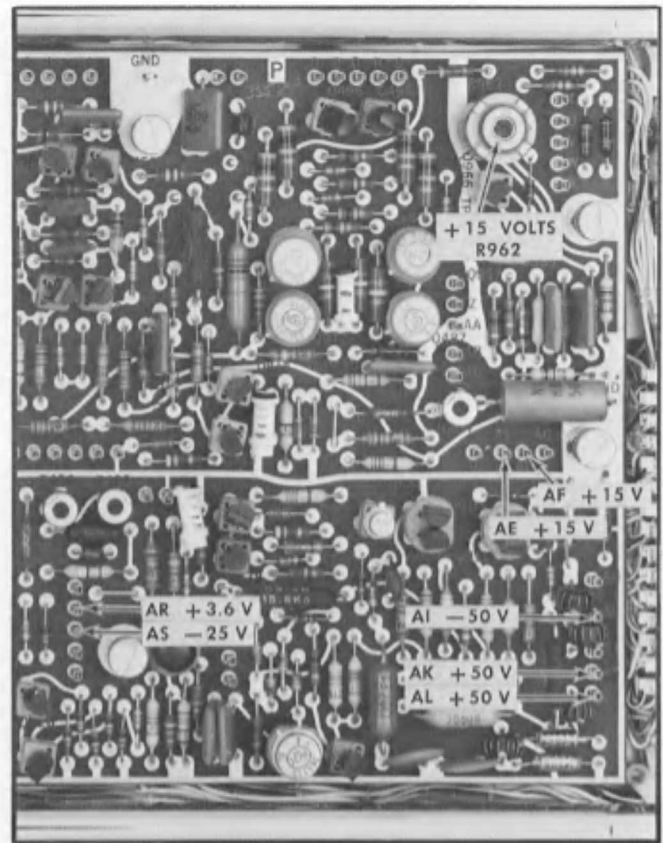

Fig. 7-3. Location of power supply test points and +15 Volt adjustment, instrument right side.
1. Check and Adjust Power Supplies ①
a. Refer to Fig. 7-3 to locate the power supply test points and the +15 Volt adjustment control. Location is on the Output circuit board, instrument right side.